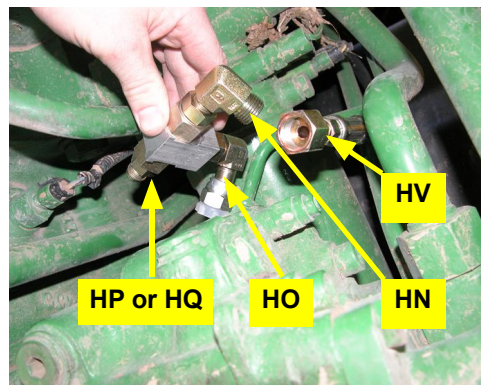

Figure 7c: Install load sense shuttle
- d. Connect replacement hose **HV** to shuttle adapter fitting **HN**. Attach the shuttle's elbow swivel adapter **HO** to the pump where you disconnected the tractor's load sense pipe from (Figure 7c).